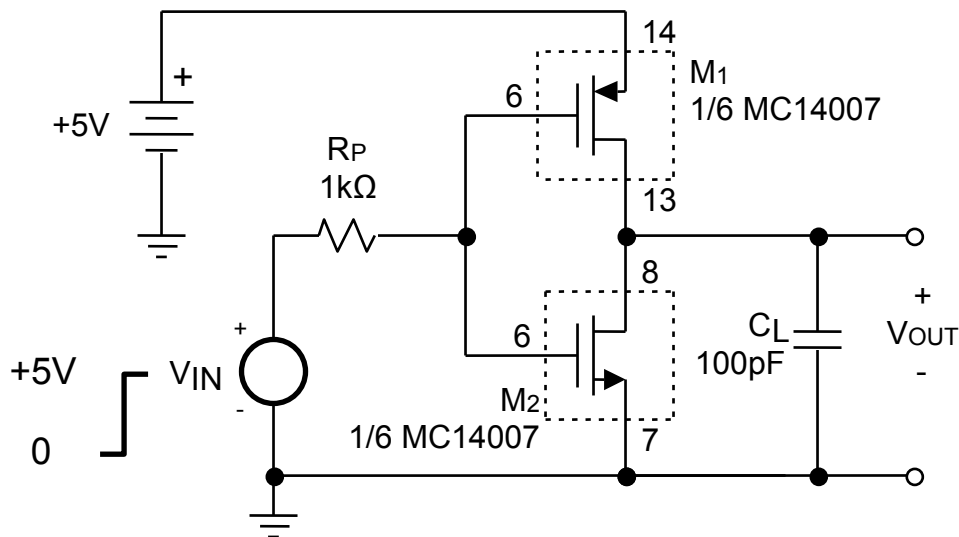

Figure 4-4.
- L14. Add a 100pF load capacitance the logic inverter, as shown in Fig. 4-4. This capacitance corresponds to the capacitive load that the output might “see” due to the capacitance of a PC board trace, bus wiring, or other logic gate inputs.